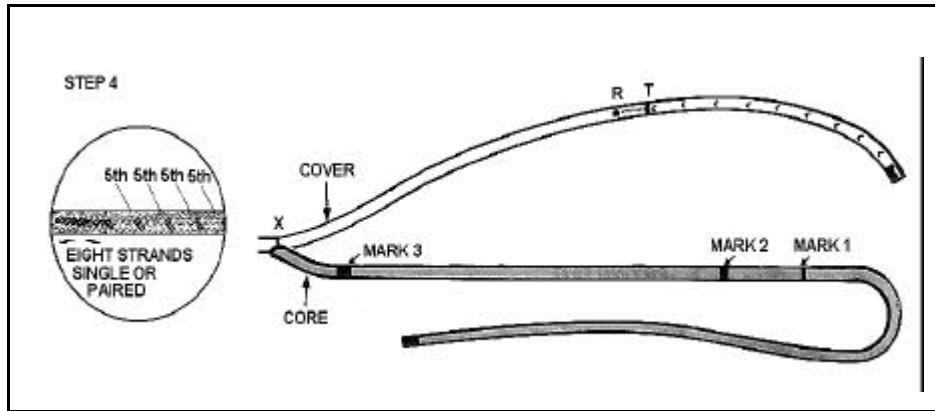

Figure 12-55. Marking the Cover for Tapering
- **STEP 4 -- Marking the cover for tapering.** Note nature of cover braid. It is made up of strands -- either one or two (pair). By inspection, you can see half the strands revolve to the right around rope and half revolve to the left. Beginning at point R and working toward the taped end of the cover, count eight consecutive strands (single or pairs) which revolve to the right (or left). MARK THE EIGHTH STRAND. This is point T (see Figure 12-55, page 12-48, insert). Mark point T completely around cover. Starting at point T and working toward the taped cover end, count and mark every fifth right and left strand (single or paired) until you have progressed down to end of taped cover.